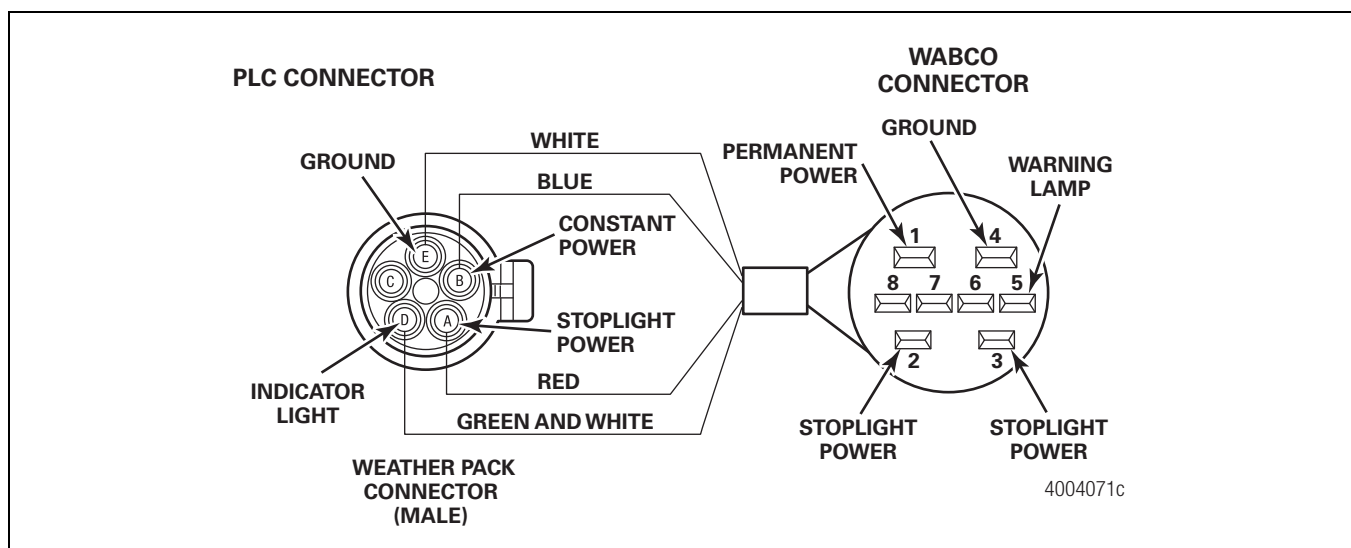

Figure 14
NOTE: If you are routing this cable to a junction box, or if it is necessary to cut the cable, please contact the OnTrac Customer Service Center at 866-OnTrac1 (668-7221) for assistance. Refer to the pinout information in Figure 14 for additional cable information.
7. Plug the five-pin Weather Pack connector into the ABS dropout of the mating receptacle on the main trailer harness. Figure 14.